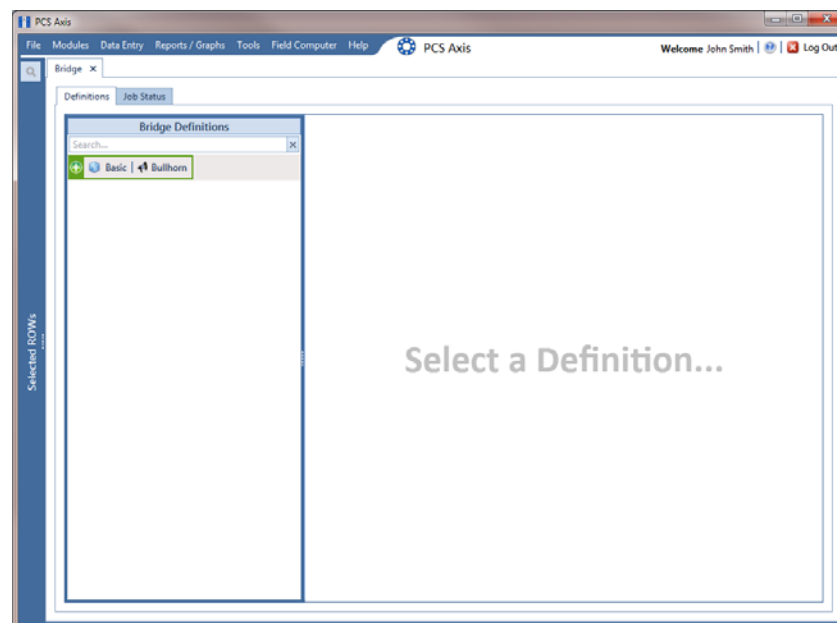

Figure 10-12. Bridge
- 2 Click **Tools** > **Bridge** to open the *Bridge* window (Figure 10-12).